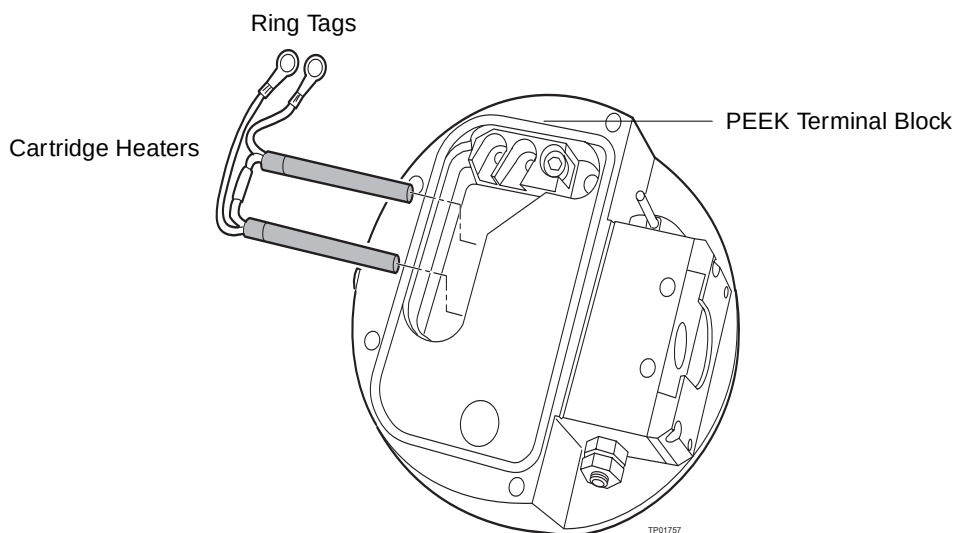

Figure 5-15 Replacing the Heater Cartridge
1. Remove the cover plate (shown as a cutaway in Figure 5-15) from the ion block.
2. Remove the two screws securing the heater cartridge ring tags from the PEEK terminal block (Figure 5-15).